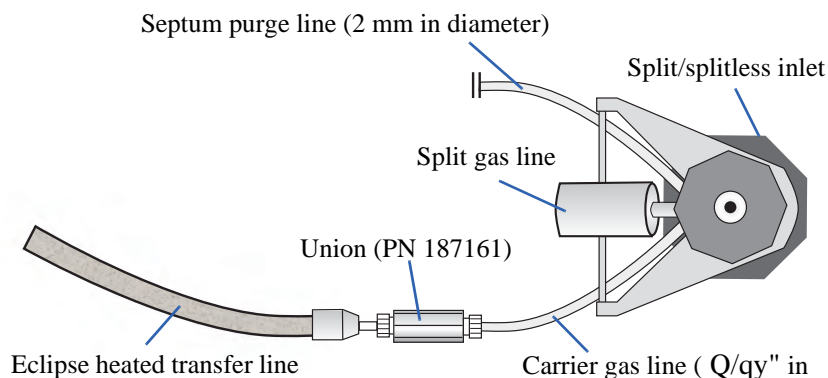
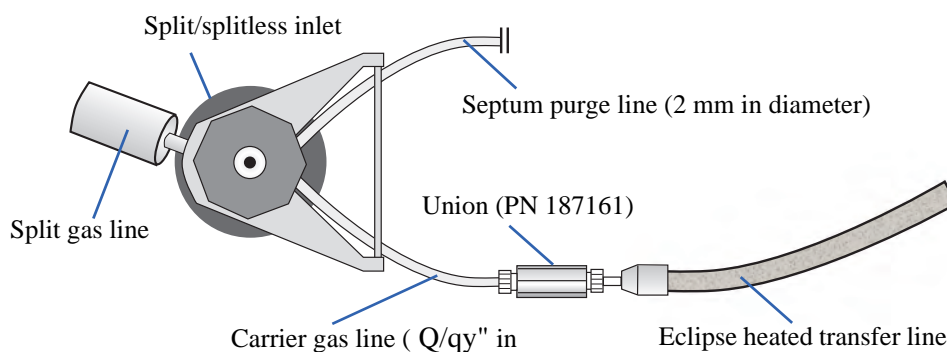

Figure 3.23. Top view of a split/splitless inlet for an Agilent 6890 GC
Figure 3.24. Top view of a split/splitless inlet for an Agilent 7890 GC
For the Agilent 6890 or 7890 GC split/splitless inlet, always cut the Q/qy"-O.D. line. Do not cut the 2-mm O.D. line. Depending upon where the GC was manufactured, the 2 mm and Q/qy" lines may be in the relative positions shown in Figure 3.23 or Figure 3.24, or they may be reversed.
1. Locate the two gas lines visible at the top of the split/splitless inlet. On the Agilent 6890 or 7890 GC, the septum purge line is 2 mm in diameter and the carrier gas line is Q/qy" (see Figure 3.23 for an Agilent 6890 GC or Figure 3.23 for an Agilent 7890 GC).